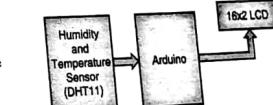

Fig. 14.7.1 : Temperature and Humidity interfacing with Arduino
- The block diagram of the system can be as shown in Fig. 14.7.1.